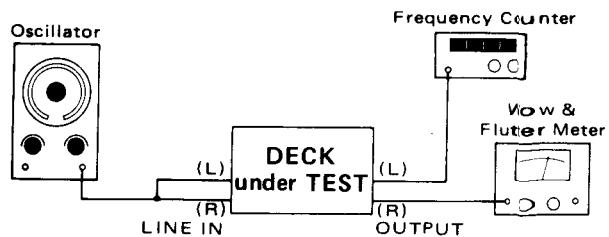

Fig. 4-7
- Connect a frequency counter to the deck as shown in Fig. 4-7.
- Connect a wow-and-flutter meter to the deck as shown in Fig. 4-7.